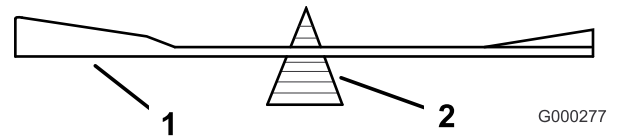

Figure 75
2. Check the balance of the blade by putting it on a blade balancer (Figure 75). If the blade stays in a